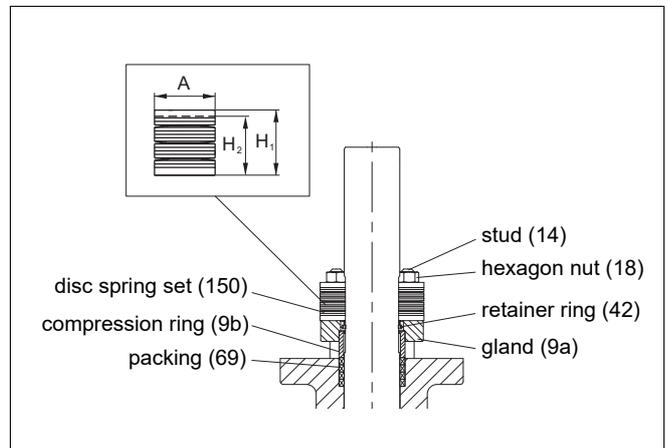

Fig. 21 Gland packing, D1F_G, D2_G
- Unfasten the nuts (18) and remove the disc spring (TA-Luft) kits (150), the gland (9a), the retainer ring (42) and the compression ring (9b).
- Remove old packing rings (20). Do not damage the surfaces of the packing ring counterbore and shaft.
- Slip the retainer ring (42) on the shaft and push it against the compression ring, see Figure 21. See also the caution.